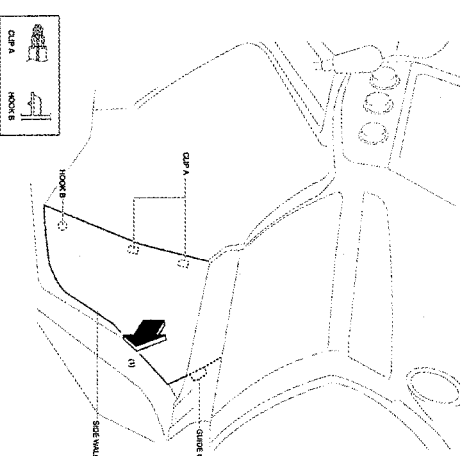

FIGURE 6
- PULL OUT THE SIDE WALL IN THE DIRECTION OF THE ARROW (1) THEN REMOVE THE CLIPS A AND HOOK B. (SEE FIGURE 6)